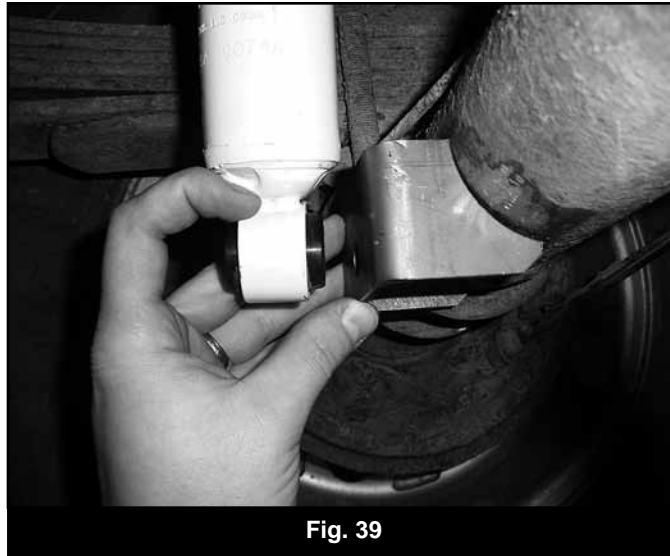

Fig. 39
35. Position the new shock mounts so the flat shock mount surface is parallel to the centerline of the shock (Fig 39). This will ensure that the shock bushing will run square in the shock eye at ride height. Tack the brackets into position.